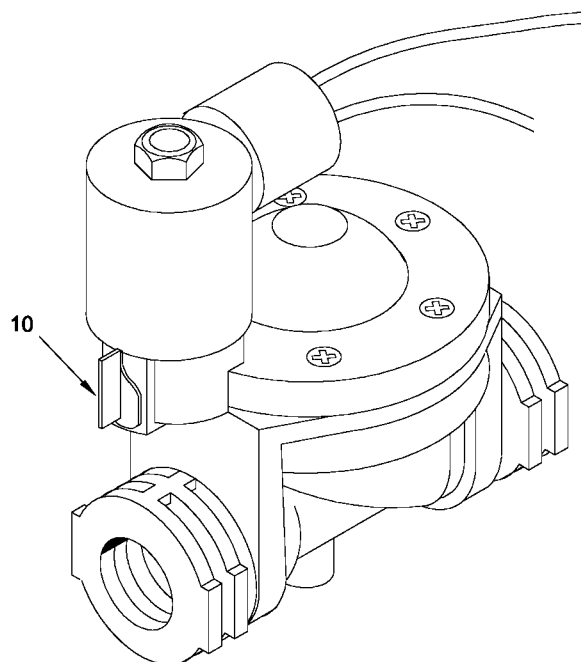

Figure 3-1. Controls and Indicators (View 3 of 3)
2. Open the receiver control box and set all three address switches (item 4, fig. 3-1) to the RIGHT.